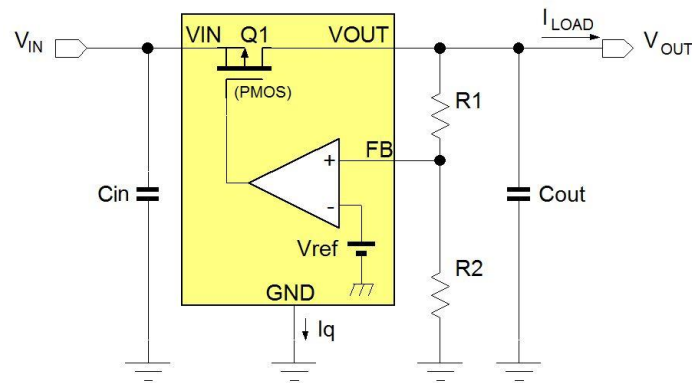

Figure 2. Basic LDO schematic
**The Low drop out linear regulator or LDO** is suitable for applications which require low noise, low current and low  $V_{IN} / V_{OUT}$  ratio. The basic circuit is shown in Figure 2.